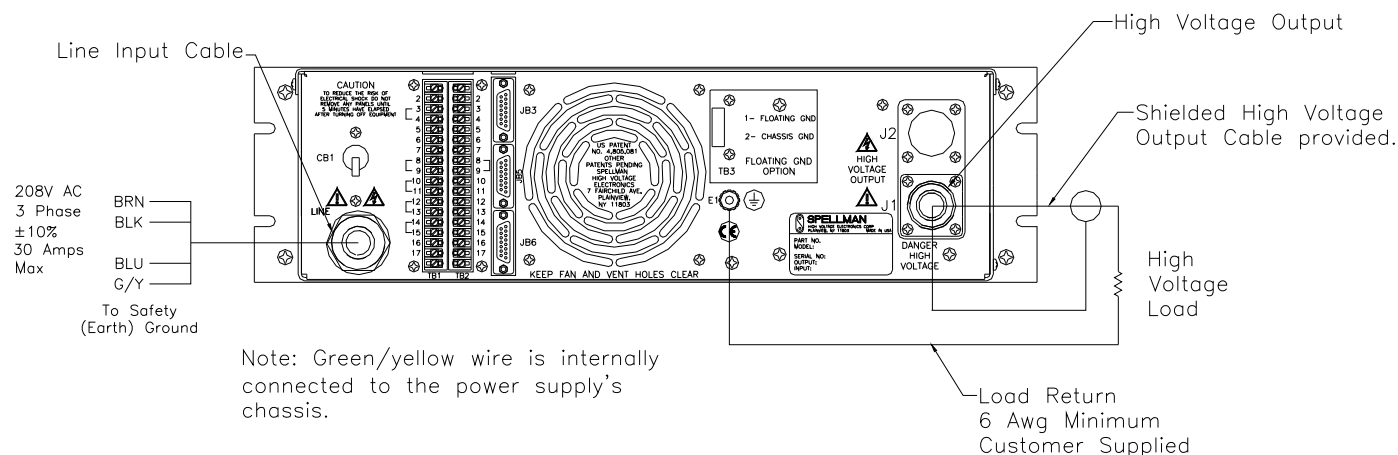

Figure 3.1 Typical Operating Setup
C) **PROPER GROUNDING TECHNIQUE:** The chassis of high voltage power supplies must be grounded, preferably to a water system ground using copper pipe or other earth ground using the connection terminal at the rear of the unit.. See Figure 3.1 for a typical operating setup.